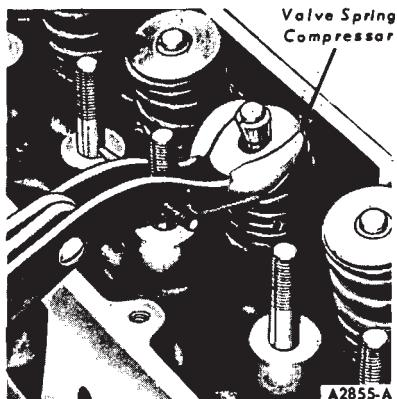

FIG. 27—Compressing Valve Spring On Bench—Typical
2. Install the valve spring and damper, if so equipped, over the valve, and then install the spring retainer. Compress the spring and install the sleeve, if so equipped, and retainer locks (Fig. 27).